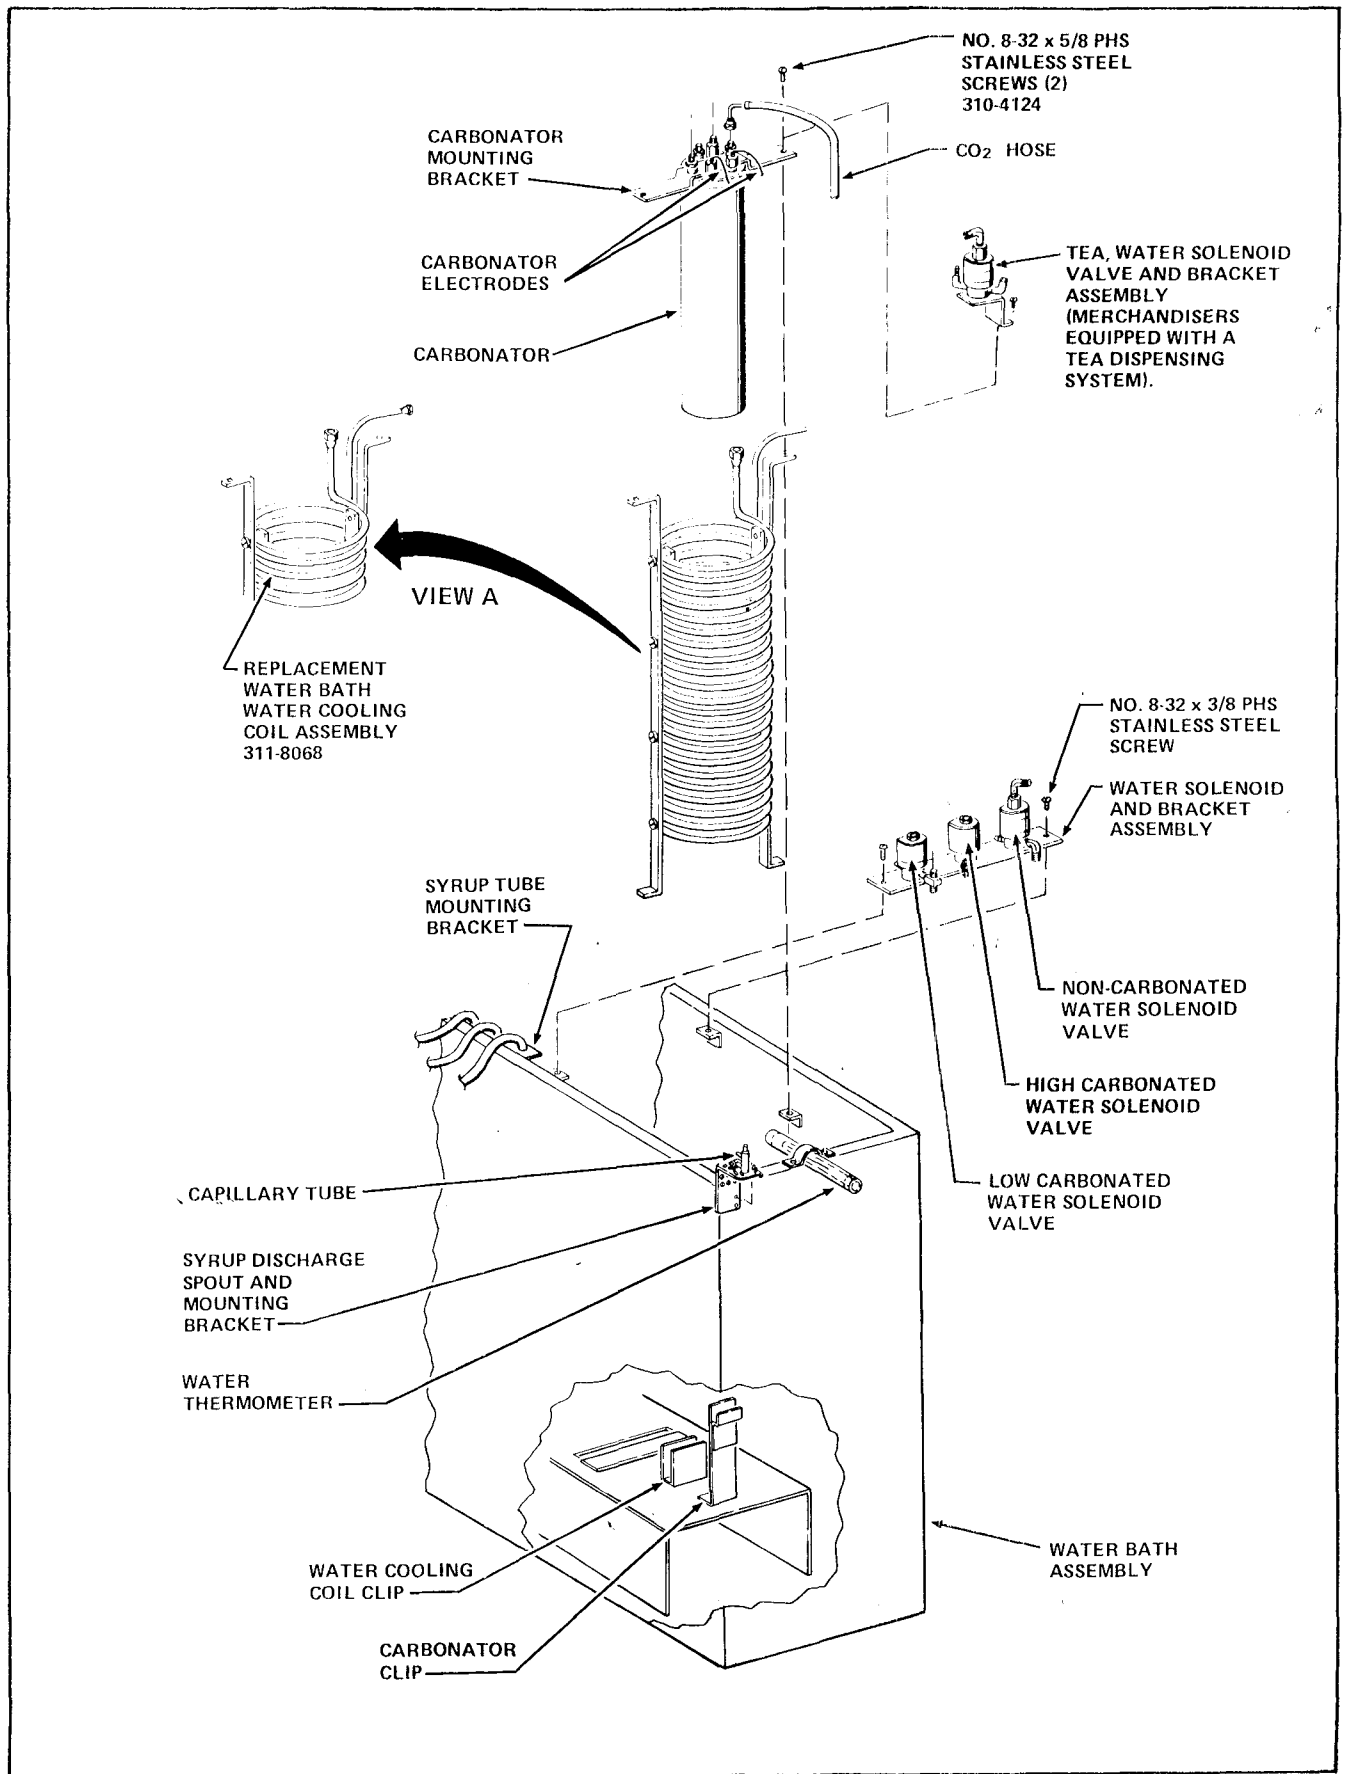

FIGURE 3
13. Remove the CO₂ Hose from the Carbonator. See Figure 3.
14. Remove the Water Thermometer from the Water Bath by removing the two Screws and Clamp. See Figure 3.
16. Remove and retain the two Screws that attach the Syrup Discharge Spout and Mounting Bracket to the Water Bath. See Figure 3.
22. Carefully remove the Carbonator Mounting Bracket and Carbonator from the Water Bath Assembly by removing the Screw from each end of the Carbonator Mounting Bracket. See Figure 3.
- 23. Lift and remove the Water Bath Water Cooling Coil Assembly from the Water Bath Assembly. See Figure 3.
- 1. Carefully place the replacement Water Bath Water Cooling Coil Assembly, Part Number 311-8068, included in the Kit, in the Water Bath Assembly with the Elbow shaped end of Coil projecting over the right side of the Water Bath Assembly. The bottom Coil of the replacement Water Bath Water Cooling Coil Assembly fits into the short clip at bottom of Water Bath Assembly. See Figure 3.
- 2. Install the Carbonator and Carbonator Mounting Bracket in the Water Bath Assembly with the Carbonator Electrodes toward the front of Water Bath Assembly. The lower end of Carbonator fits into the tall clip at bottom of Water Bath Assembly. See Figure 3.
3. Carefully attach the Carbonator Mounting Bracket and replacement Water Cooling Coil Assembly to the Water Bath Assembly with the two No. 8-32 x 5/8" Pan Head Slotted Stainless Steel Screws, Part Number 310-4124, included in the Kit. See Figure 3.
- a. Attach the Water Solenoid and Bracket Assembly on the Water Bath Assembly with two No. 8-32 x 3/8" Pan Head Stainless Steel Screws. The Syrup Tube Mounting Bracket located at the left and inside the Water Bath fits between the Water Solenoid and Bracket Assembly and the attaching Bracket on the Water Bath. See Figure 3.
10. Attach the Syrup Discharge Spout and Mounting Bracket to the Water Bath with the two Screws removed in Step 16 of Part A. See Figure 3.
12. Install the Water Thermometer, Clamp, and two Screws on the front edge of the Water Bath. See Figure 3.
13. Attach the CO₂ Hose, that is connected to the CO₂ Cylinder, to the Carbonator. See Figure 3.